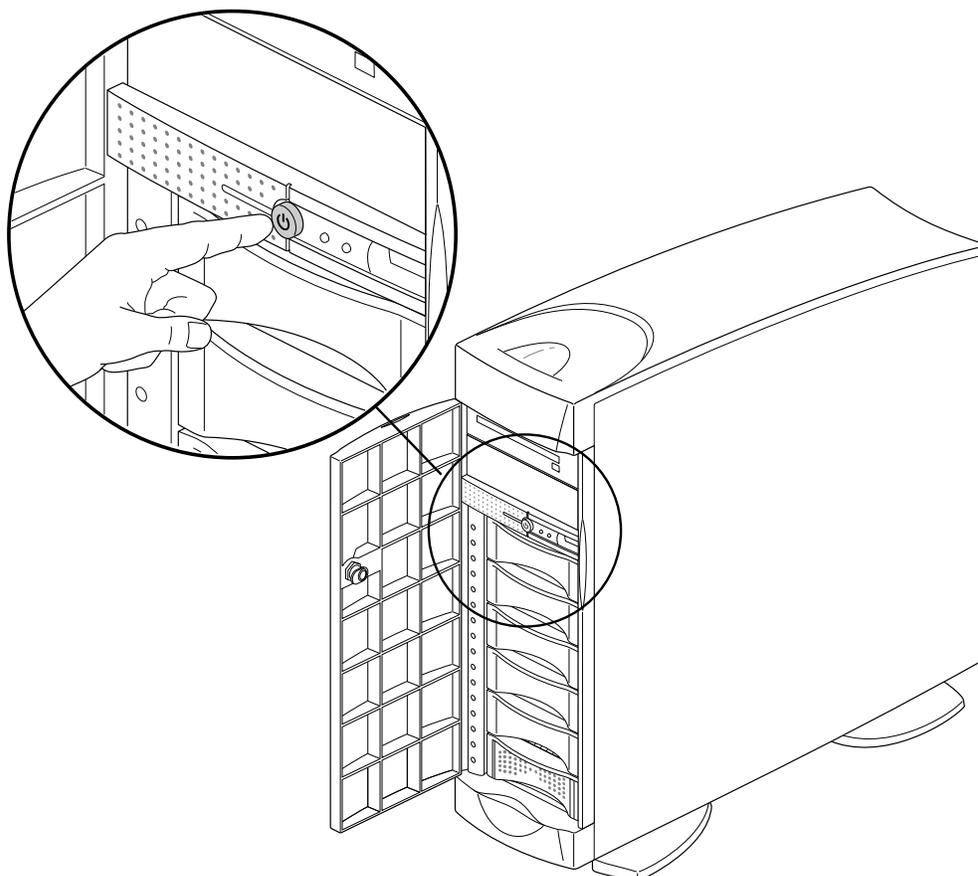

Figure 4-3 Turning On the Front Power Switch
- If you do not see any messages after turning on the main power switch, press the front power button, as shown in Figure 4-3.